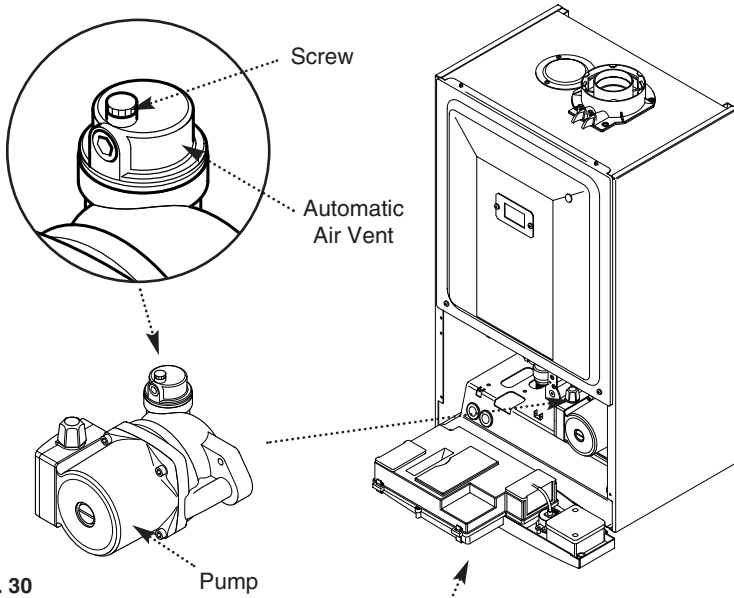

Fig. 30
5. Open the screw on the automatic air vent (Fig. 30).